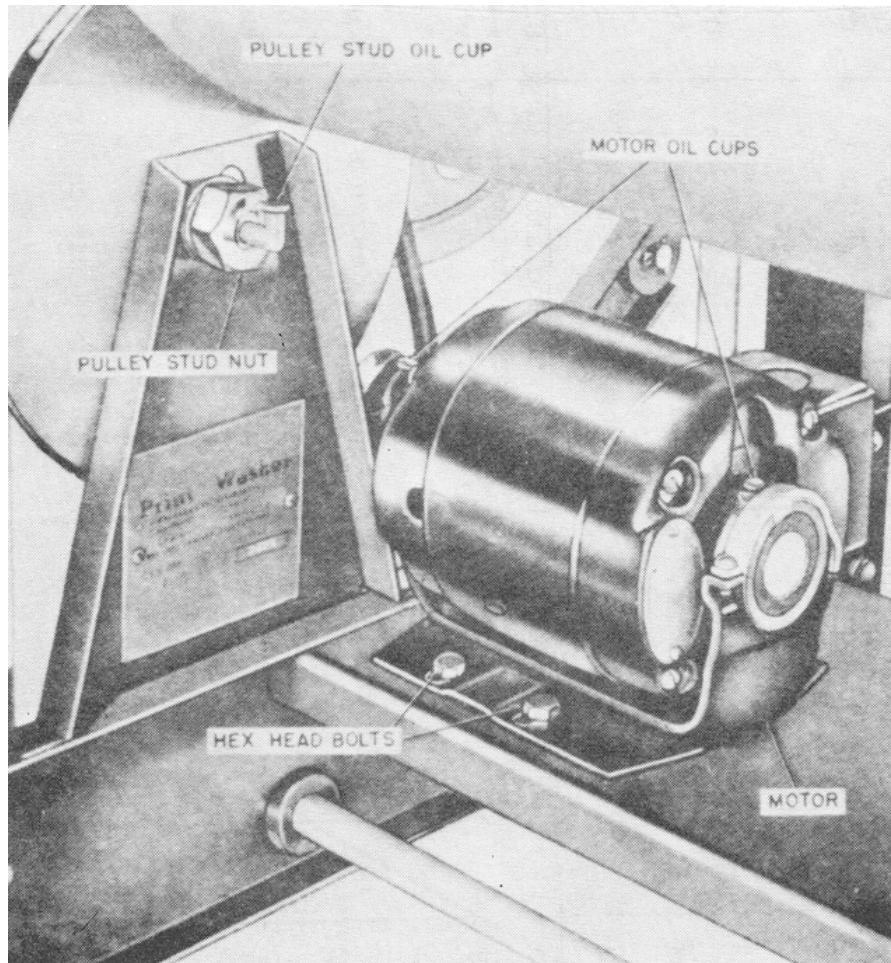

FIGURE 3-3. Motor and Pulleys (motor cover removed).
d. Transmission. The transmission consists of a simple reduction pulley system (figures 3-3 and 3-4). The motor pulley is fastened to the motor shaft. The reduction pulley revolves on a pulley stud which is mounted to the upright bracket on the frame. The driven pulley is attached to the left end of the roller shaft where it emerges from the tank. Two belts, the motor belt and the drive belt, transmit the power from the motor to the roller shaft.
3-11 General Lubrication (figure 3-3)